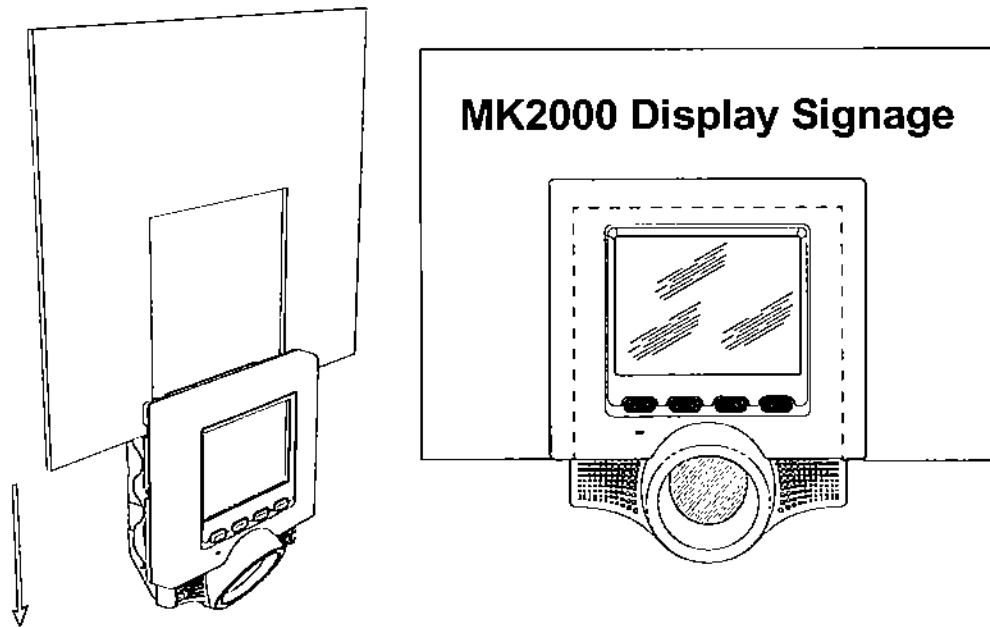

Figure 2-12. Sign Installation
2. Trim the sign (customer provided) to 7 5/8 inch wide and 7 1/4 inches high. Refer to the dimensions shown in Figure 2-1 on page 2-3. The cutout in the sign is shown in Figure 2-12 on page 2-21.
3. Slide the sign under the mounting brackets. See Figure 2-12 on page 2-21.
4. The finished sign will be displayed as shown in Figure 2-12 on page 2-21.